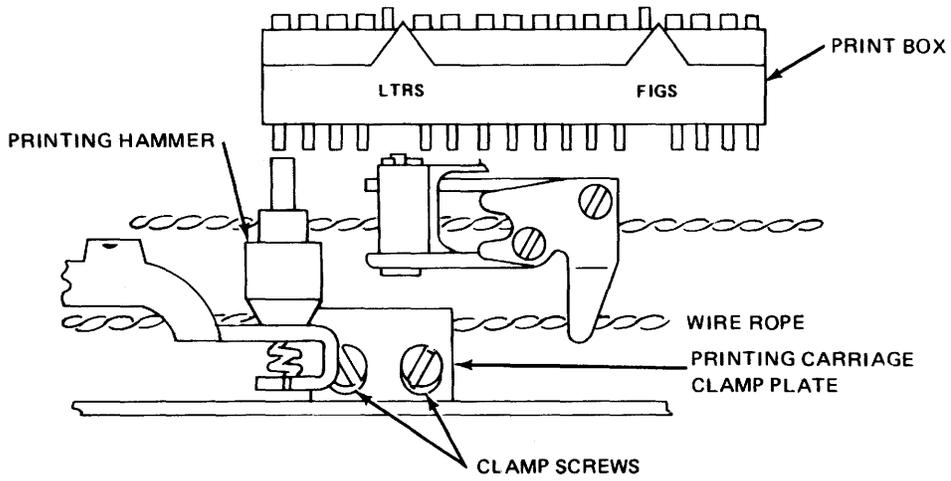

Figure 6-49. Printing Carriage (Top View).
6-51. Keyboard Carriage Assembly Removal and Replacement. To replace the keyboard carriage assembly, see figures 6-49 and 6-50, and proceed as follows:
a. Loosen two clamp screws on printing carriage clamp plate, disengage printing carriage from upper draw wire rope (see figure 6-49).